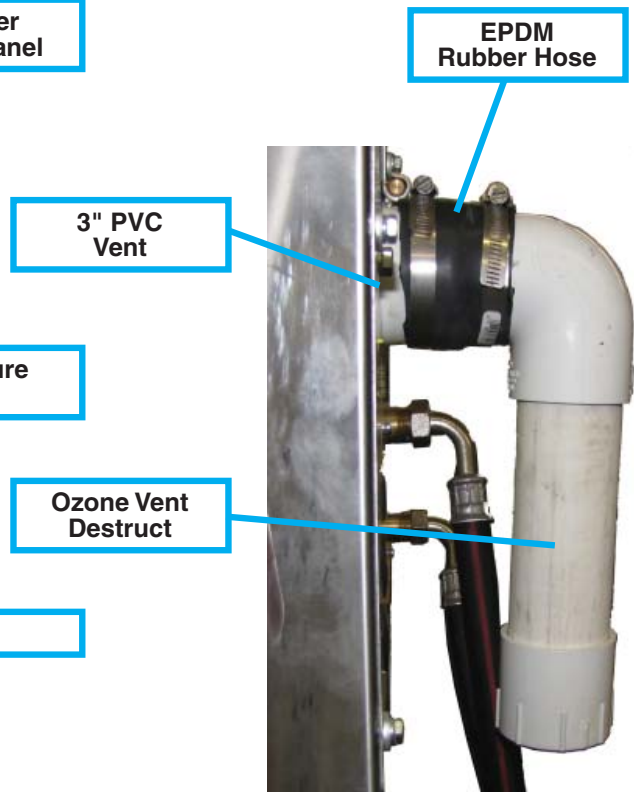

Figure 11: Carbon Vent Destruct
- B6.1.** Using a length of EPDM rubber hose, connect the vent destruct to the 3" PVC vent port on the back of the washer. *See Figure 11.*